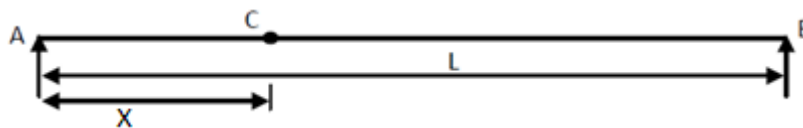

Figure 3.5
7. For a simply supported beam of span ‘L’ as shown in Figure 3.5 draw: